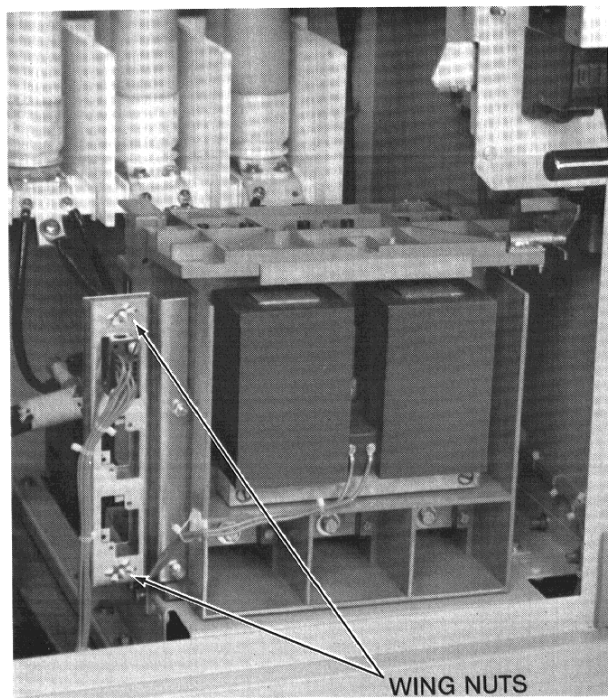

Figure 25. Remove the wing nuts securing the umbilical cord on the left side of the contactor.
- a. Remove the wing nuts holding the contactor umbilical cord and connectors in place and save the hardware. This hardware will be reused to remount the connector when the contactor is reinstalled. Unplug the connector and place the bracket in the lower front channel to the left of the contactor for safe keeping. See Fig. 25.